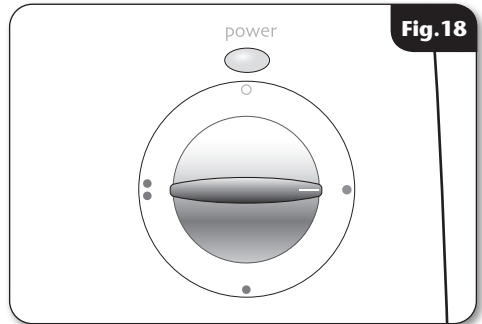

Fig.18
- Turn the power selector to the **COLD** position (**fig.18**) and wait until water starts to flow from the flexible hose.